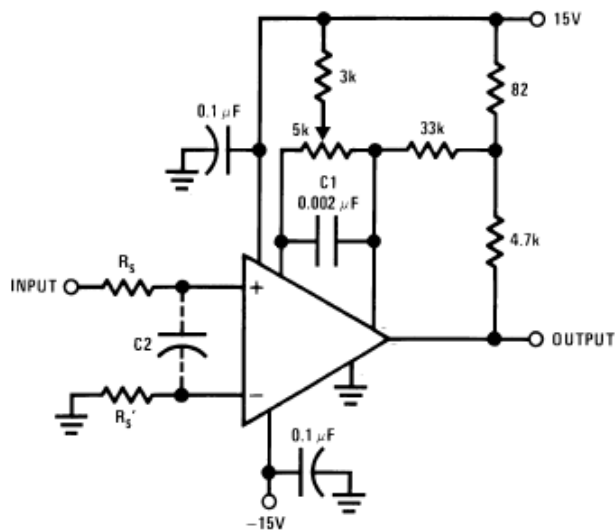
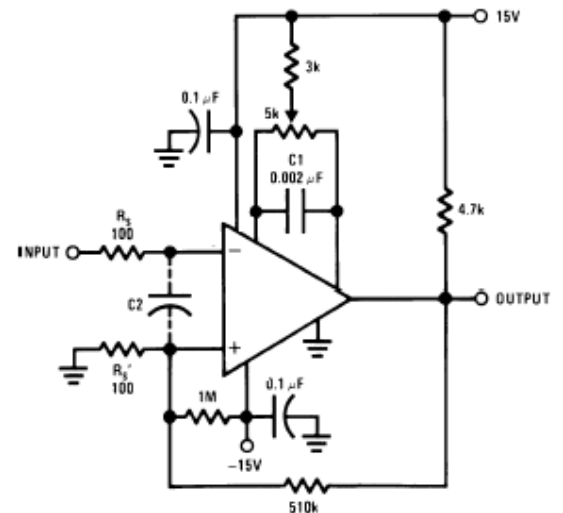
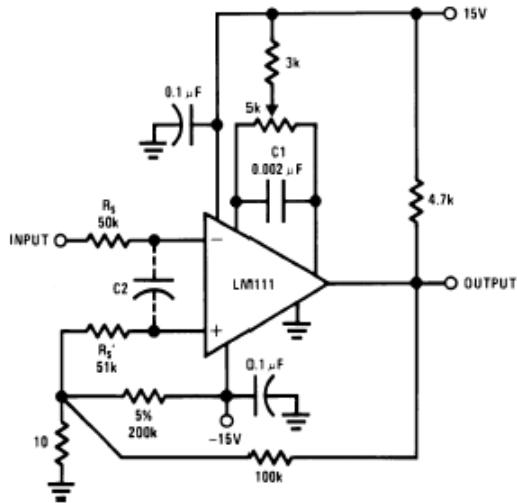

FIGURE 1. Improved Positive Feedback
FIGURE 2. Conventional Positive Feedback
FIGURE 3. Positive Feedback with High Source Resistance
When a high-speed comparator such as the QP111 is used with fast input signals and low source impedances, the output response will normally be fast and stable, assuming that the power supplies have been bypassed (with 0.1 μ F disc capacitors), and that the output signal is routed well away from the inputs and also away from Balance and Balance/Strobe pins. However, when the input signal is a voltage ramp or a slow sine wave, or if the signal source impedance is high (1 k Ω to 100 k Ω), the comparator may burst into oscillation near the crossing-point. This is due to the high gain and wide bandwidth of comparators like the QP111. To avoid oscillation or instability in such a usage, several precautions are recommended, as shown in Figure 1 below.
1. The trim pins (Balance and Balance/Strobe) act as unwanted auxiliary inputs. If these pins are not connected to a trim-pot, they should be shorted together. If they are connected to a trim-pot, a 0.01 μ F capacitor C1 between Balance and Balance/Strobe will minimize the susceptibility to AC coupling. A smaller capacitor is used if Balance is used for positive feedback as in Figure 1.
3. When the signal source is applied through a resistive network, R_S , it is usually advantageous to choose an R_S' of substantially the same value, both for DC and for dynamic (AC) considerations. Carbon, tin-oxide, and metal-film resistors have all been used successfully in comparator input circuitry. Inductive wire wound resistors are not suitable.
6. It is standard procedure to use Hysteresis (positive feedback) around a comparator, to prevent oscillation, and to avoid excessive noise on the output because the comparator is a good amplifier for its own noise. In the circuit of Figure 2, the feedback from the output to the positive input will cause about 3 mV of Hysteresis. However, if R_S is larger than 100Ω , such as $50\text{ k}\Omega$, it would not be reasonable to simply increase the value of the positive feedback resistor above $510\text{ k}\Omega$. The circuit of Figure 3 could be used, but it is rather awkward. See the notes in paragraph 7 below.
7. When both inputs of the QP111 are connected to active signals, or if a high-impedance signal is driving the positive input of the QP111 so that positive feedback would be disruptive, the circuit of Figure 1 is ideal. The positive feedback is to Balance pin (one of the offset adjustment pins). It is sufficient to cause 1 to 2 mV Hysteresis and sharp transitions with input triangle waves from a few Hz to hundreds of kHz. The positive-feedback signal across the 82Ω resistor swings 240 mV below the positive supply. This signal is centered around the nominal voltage at the Balance pin, so this feedback does not add to the VOS of the comparator. As much as 8 mV of VOS can be trimmed out, using a $5\text{ k}\Omega$ pot and $3\text{ k}\Omega$ resistor as shown.